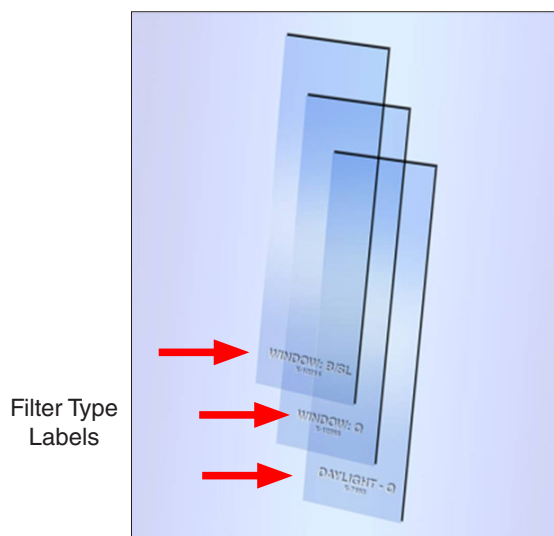

Figure 7.4a: Q-SUN Xe-1 UV filters are labeled with filter type.
- The filter type name is etched on the filters for easy identification (see Figure 7.4a).